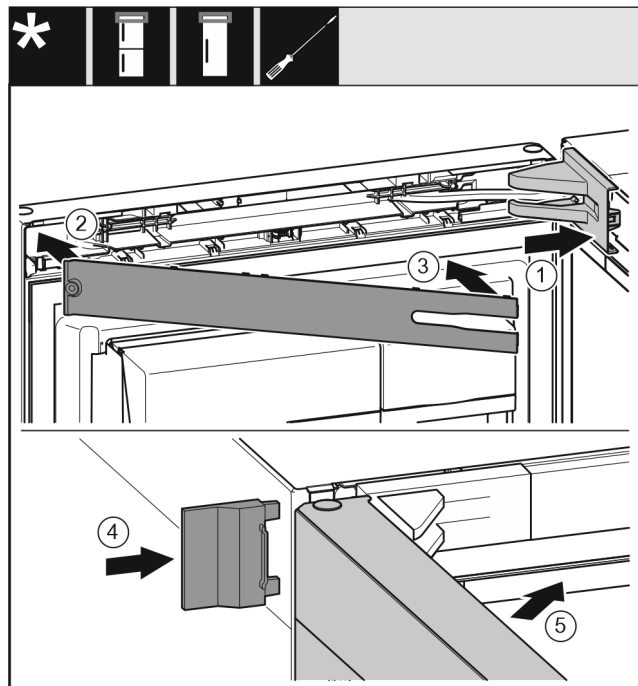

Fig. 31
- ▶ Put the swap bearing block cover Fig. 31 (1) on and engage, push apart carefully if required.
- ▶ Fit the trim Fig. 31 (2).
- ▶ Swivel in the cover Fig. 31 (3) and engage.
- ▶ Push the outer cover Fig. 31 (4) on.
- ▶ Close the upper door Fig. 31 (5).